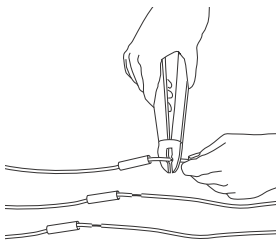

Fig. 7 Crimping the connectors
4. Slide the heat shrink tubing on to each lead. Insert a properly sized "Sta-Kon" type connector on each lead, making sure that lead colors are matched. Using "Sta-Kon" crimping pliers, indent the lugs. See fig. 7. Be sure to squeeze hard on the pliers, particularly in the case of a large cable.